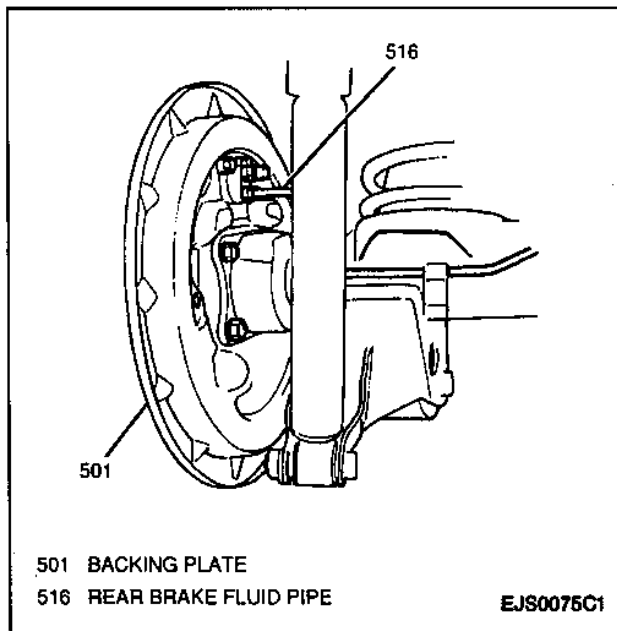

Figure 4—Wheel Cylinder and Backing Plate
3. Two wheel cylinder retaining bolts from rear of backing plate and wheel cylinder from vehicle (Figure 4).